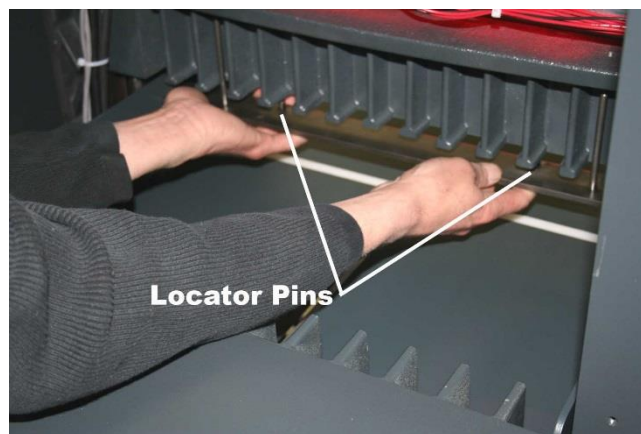

Figure 9
3. Remove the rear cover and slide the false clamp plate under the knife and clamp (Figure 9) and slide the plate up into position with the locator pins toward the front of the machine. The locator pins insert into holes in the bottom front of the clamp. **CAUTION! Do not rub your fingers up the front side of the clamp. You may cut your fingertips.**